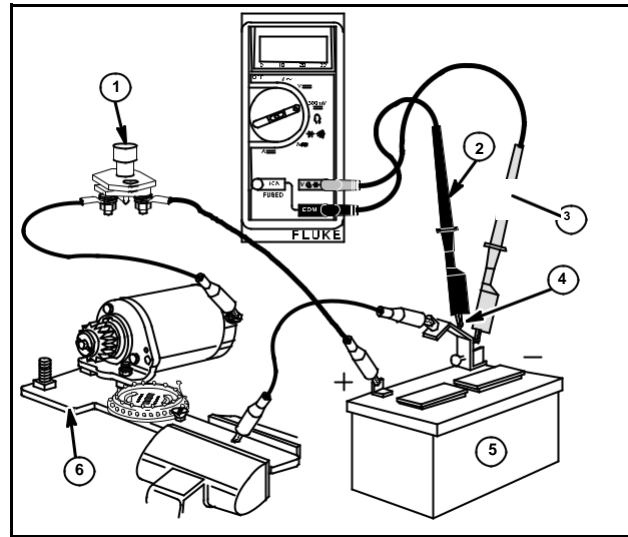

Fig. 28
2. Connect the starter motor, battery and meter as Shown in Fig. 28.